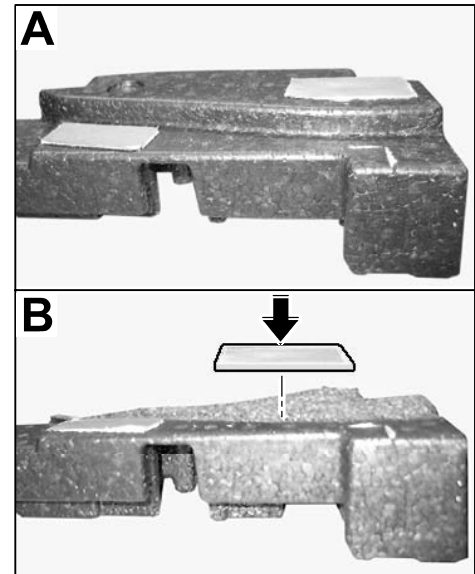

Figure 10
2.5.2 Select foam part ⇒ *Figure 10 -A-* corresponding to the trailer hitch version and adapt it to suit the trailer hitch at the underside, close to the mounting point for the spare wheel carrier lock using a knife ⇒ *Figure 10 -B-*.
2.5.3 Remove double-sided adhesive tape from the section you cut off and stick it on the cut surface ⇒ *Figure 10 -B, arrow-*.